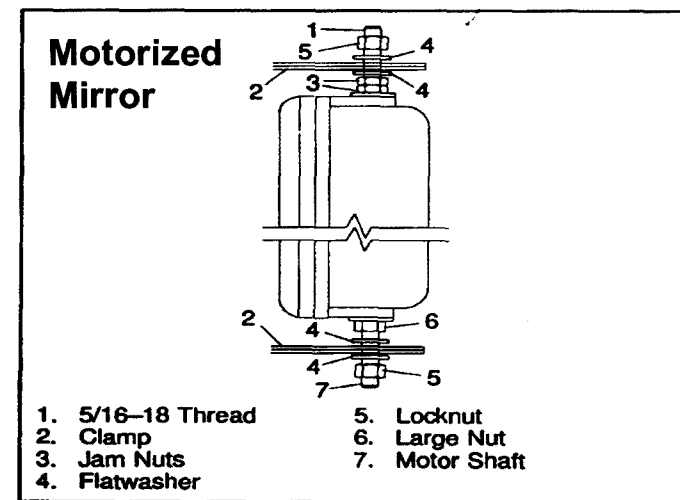
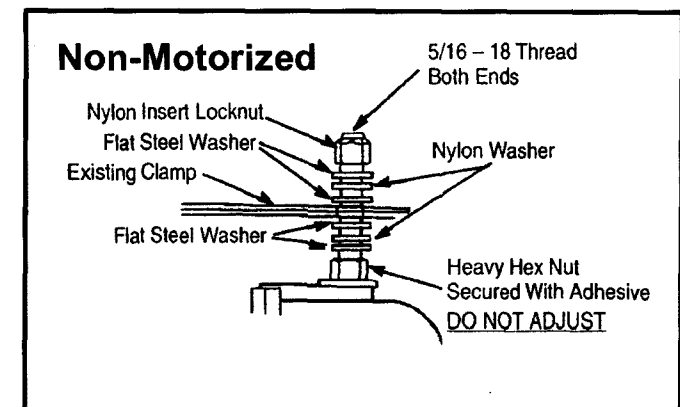

Fig. 2
Fig. 3
7. Using a 1/2 inch backup wrench to prevent the jam nuts for the motorized mirror or the hex nut for the non-motorized mirror at the top of the mirror head from turning on the shaft, remove the locknut from the top shaft. Remove the washers and clamp from the top shaft. See Fig. 2 for the motorized mirror and see Fig. 3 for the non-motorized mirror.
8. Using a 9/16 inch backup wrench to prevent the nut at the bottom of the mirror head from turning, remove the locknut from the bottom shaft. Remove the washers and clamp from the bottom shaft. See Fig. 3.
1. Install a flat washer on top of the two jam nuts on the top of the shaft of the mirror head. Install the top clamp and another flat washer. Install a locknut with a nylon insert onto the top shaft. See Fig. 2.
1. Install flat washers and nylon washers as shown in Fig. 3.